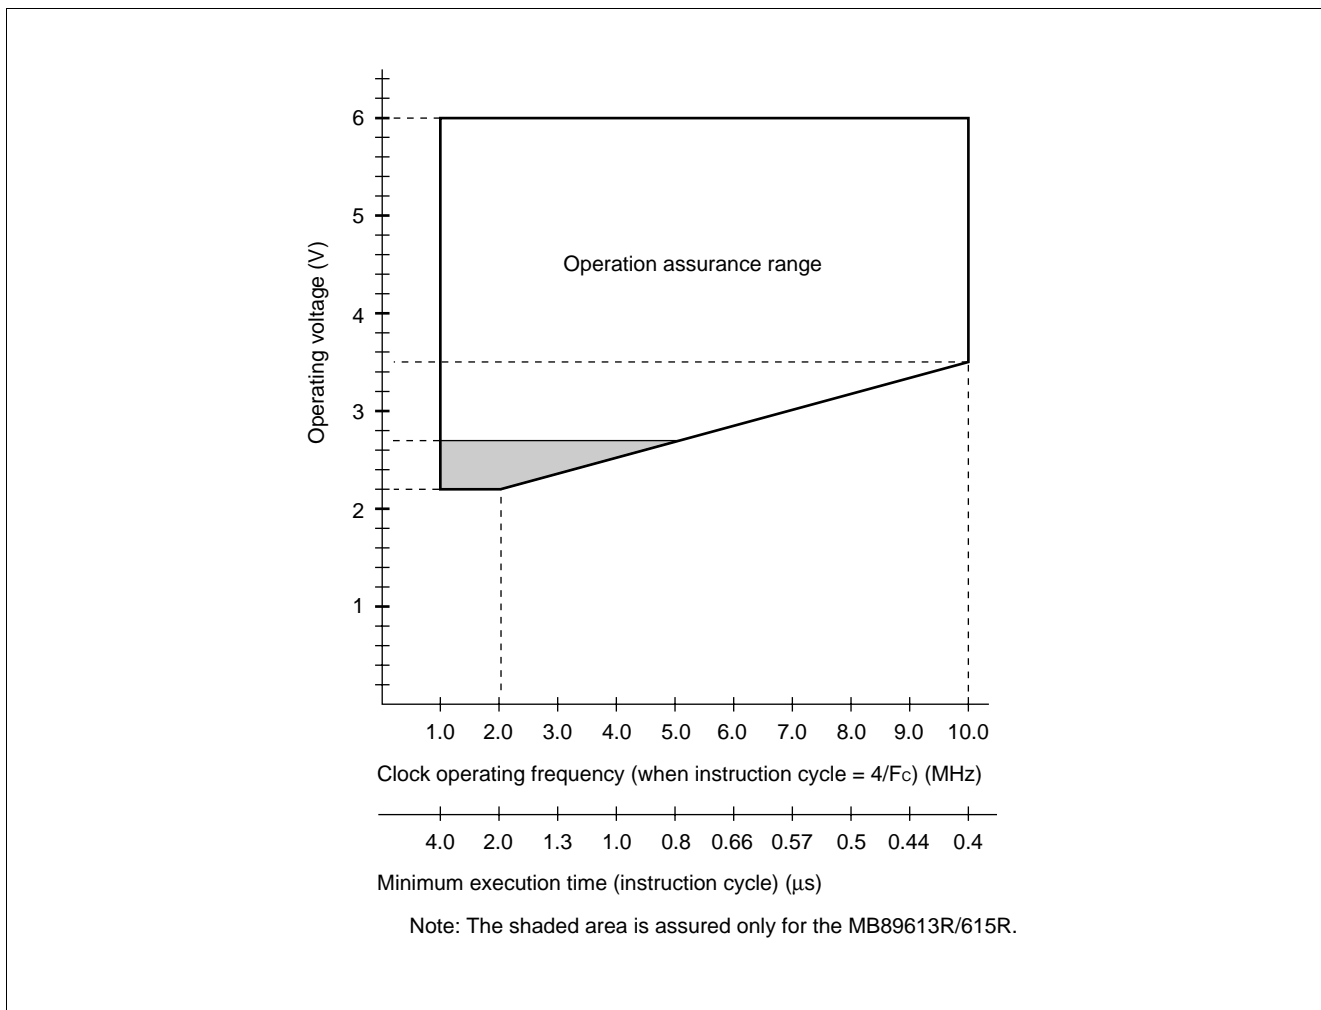

Figure 1 Operating Voltage vs. Clock Operating Frequency
* : These values vary with the operating frequency. See Figure 1.
Figure 1 indicates the operating frequency of the external oscillator at an instruction cycle of 4/F_C.